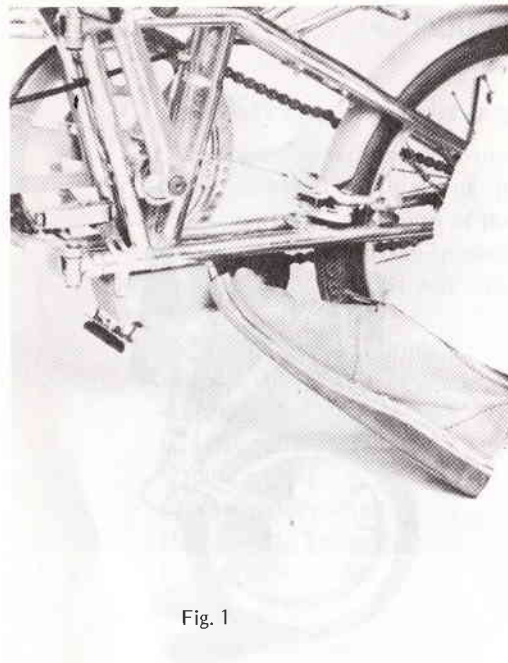

Fig. 1
6. Step down on the caster wheel as shown (Fig. 1).